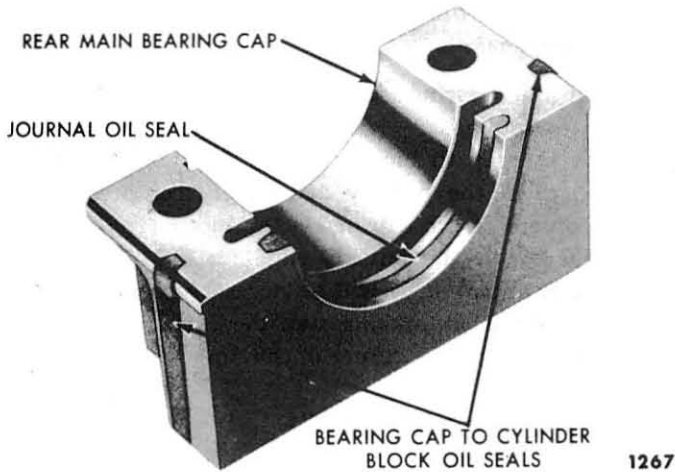

Fig. 48—Rear Bearing Cap Seals
(4) **REPLACING REAR OIL SEALS.** The rear main bearing cap contains the lower crankshaft journal oil seal and the cap itself is sealed to the block by two tapered vertical seals (fig. 48).